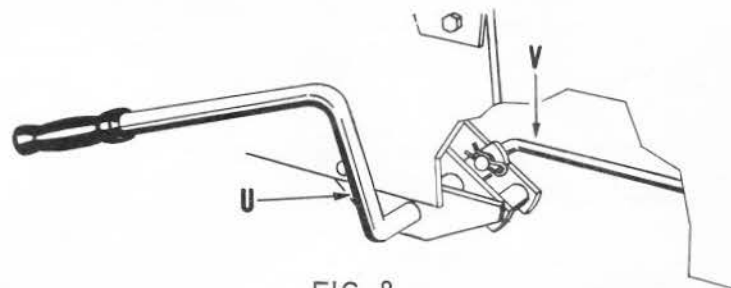

FIG. 8
9. Refer to Fig. 8. Assemble belt tightener lever (U), to inside of R.H. tractor frame as shown. NOTE: Belt tightener link (V), must be above yoke so that it can be attached to idler shaft assembly as shown in Fig. 10. One bolt must be removed from tractor to attach lever.